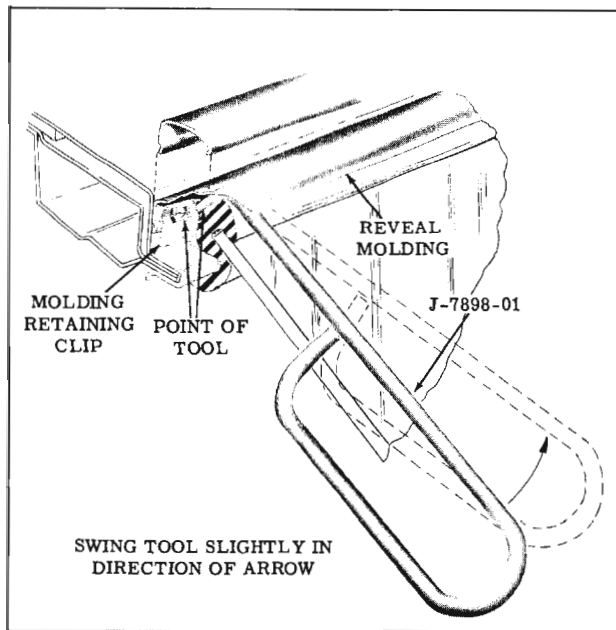

Fig. 16-5 Removing Reveal Molding
6. On all except 88 and S88 "47" styles and all "67" styles, tool J-7898-01 may be used to remove the side and upper reveal moldings. When using reveal molding removing tool (J-7898-01) carefully lift up edge of molding sufficiently to engage point of tool between molding and molding clip as indicated in illustration, to disengage prongs of clip from molding and lift molding free of clip. Repeat this operation at each molding clip. (Fig. 16-5)
8. On all styles except "67" styles, carefully remove the upper reveal molding with tool J-7898-01. (Fig. 16-5) On "67" styles, remove screws at outer ends of molding; then, remove upper garnish molding to gain access to stud nuts. Remove nuts and molding.